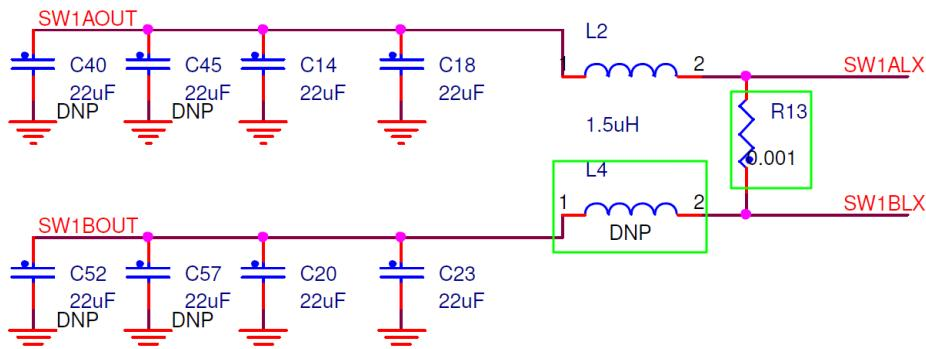

Figure 13. Schematic Change for PF3001
1. Add a 0 Ohm resistor R13 and remove L4 as shown in Figure 13.